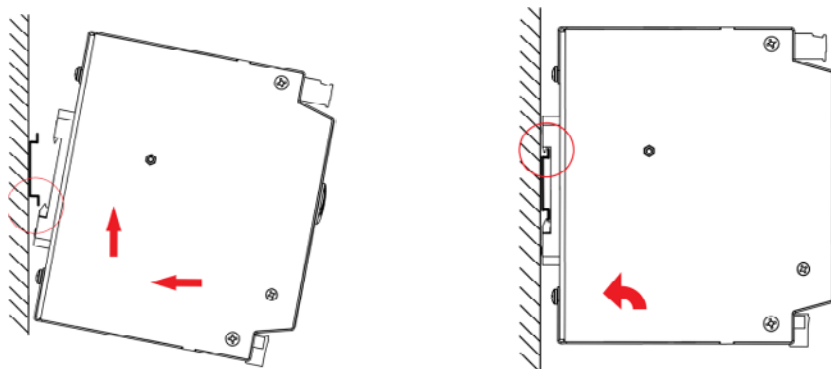

Figure 2. Mounting unit on DIN Rail
| Figure 2. Mounting unit on DIN Rail .....     | 4  |
1. Push the unit towards the rail to engage the spring-loaded clip. Then push up as illustrated in the first drawing of Figure 2.
2. Pivot the device towards the rail so that the top hook clips into the mounting rail as illustrated in the second drawing of Figure 2.